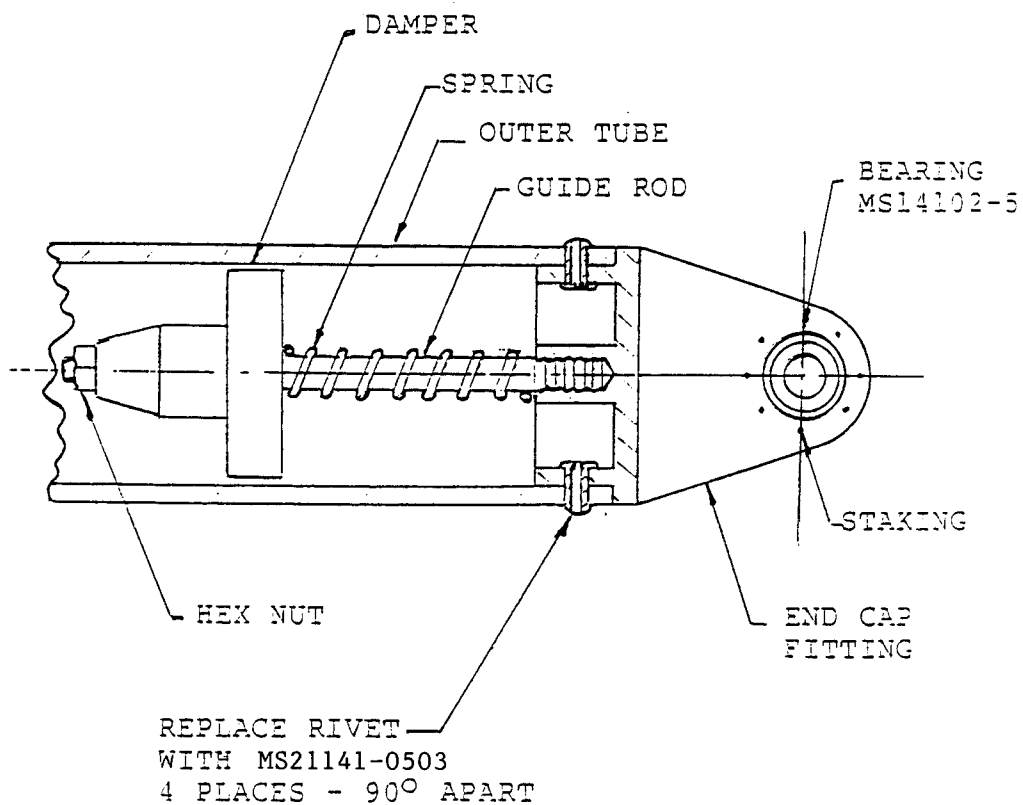

FIGURE 1 - END CAP ASSEMBLY AND DAMPER
- C. Drill out four (4) rivets in outer tube, shown in Figure 1, using a No. 19 drill, .166 inch (4.216 mm) diameter. Center drill point in center of rivet. Drill only deep enough until rivet head separates from stem. Tap remaining rivet into outer tube.
- G. Place mark on outer tube and end cap to indicate alignment of four (4) holes. Remove end cap assembly from outer tube.
- K. Apply primer TT-P-1757 and install four (4) MS21141-0503 rivets using a double action tool as indicated in Military Standard MS21141.